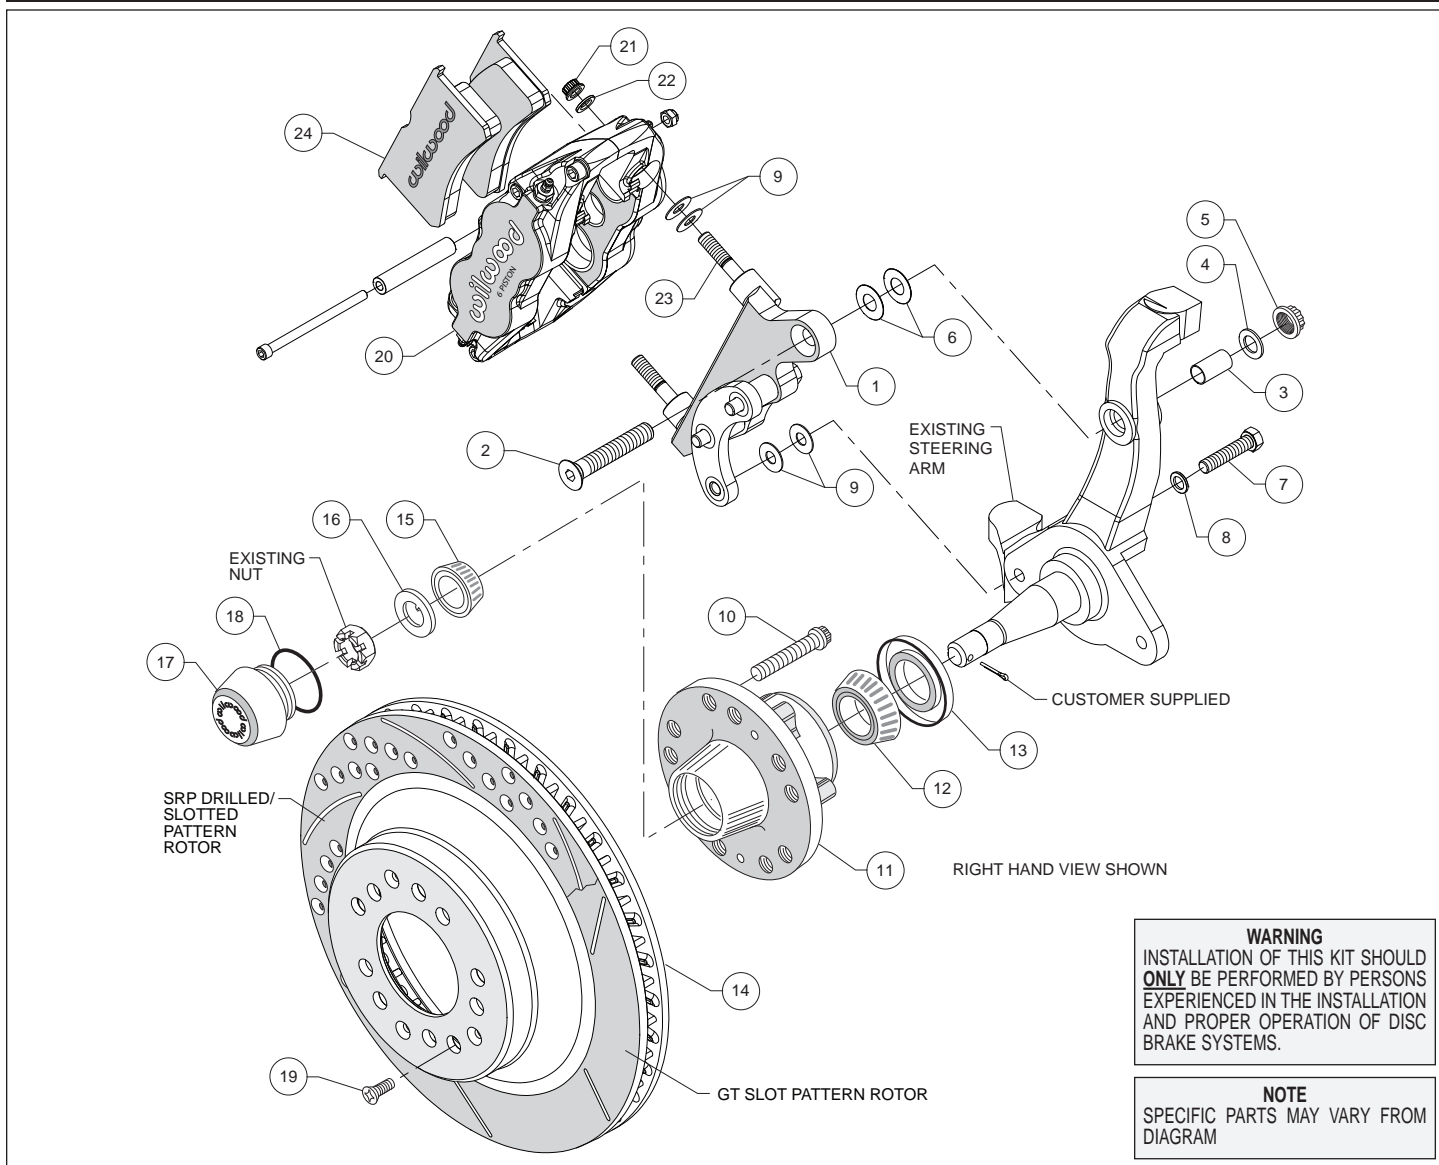
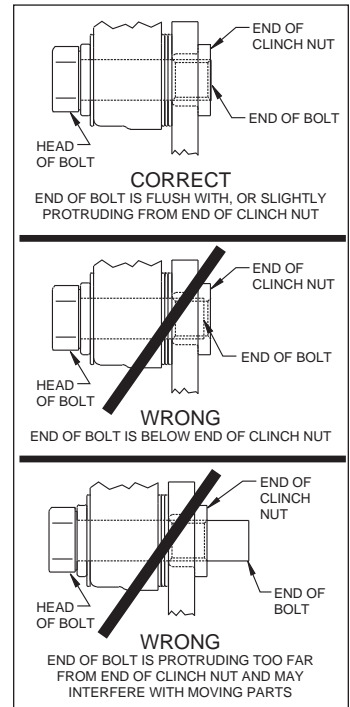

Figure 1. Typical Installation Configuration
Figure 3. Clinch Nut Engagement Diagram
Assembly Instructions (numbers in parenthesis refer to the parts list and Figure 1 on the preceding pages): **CAUTION:** All mounting bolts must fully engage clinch nuts. Be sure to check that all bolts are either flush or protruding through flanged side of clinch nut after shimming, Figure 3.
- The caliper bracket (1) should initially be installed with clean, dry threads on the mounting bolts. The bracket has been assembled at the factory for alignment purposes. Loosen the two bolts that secure the brackets together so that the bolts are hand tight only. This will enable the bracket assembly to be adjusted to accommodate various spindle tolerances during assembly. Insert sleeve (3) into top mounting hole on the spindle, Figure 1. Orient the bracket as shown in Figure 1 and install using bolt (2), washer (4), and locknut (5), in the upper hole, as shown in Figure 1 and Photo 1. Initially use two .032" thick shims (6) on the upper bolt between the bracket and spindle, Figure 1. Install bolt (7) and washer (8) in the lower hole, Figure 1. Initially use two .035" thick shims (9) between the bracket and spindle face. Temporarily tighten the mounting bolts, followed by the two bracket-to-bracket bolts. **NOTE:** The bracket must fit squarely against the mounting points on the spindle. Inspect for interference from casting irregularities, machining ridges, burrs, etc. Later, after the bracket and caliper alignment has been checked, the bolts will be secured using red *Loctite*® 271.
- Check that the bracket (1) is aligned parallel to the rotor (14), Photo 2, by assembling and installing the hub and rotor per the steps below. If not, parallel adjust by adding or subtracting shims (9) on the lower bolt between the spindle and bracket, Figure 1.
- Install wheel studs (10) into the hub (11), Photo 3. Torque to 77 ft-lb. **NOTE:** There are two five lug patterns in the hub (5 x 4.50 and 5 x 4.75). Ensure the correct hub stud pattern is being used to fit the wheel application.
- Pack the large inner bearing cone (12) with high temperature disc brake bearing grease (available from your local auto parts store) and install into the backside of the hub (11), Photo 4.
- Install the grease seal (13) by pressing into the backside of the hub (11), flush with the end of the hub, Photo 4.
- Pack the small outer bearing cone (15) with high temperature disc brake bearing grease and install into hub (11). Slide the hub assembly onto the spindle. Secure using spindle washer (16)
- Screw dust cap (17) into hub (11), Photo 6. Friction created by the o-ring (18) on the dust cap keeps it from unscrewing. **NOTE:** *The O.D. of the existing OEM spindle washer may be larger than the I.D. of the dust cap not allowing it to seat against the hub face. Therefore, use the spindle washer (16) supplied with the kit instead of the OEM washer.*
- Slide the rotor (14) onto the hub (11) taking care to align the small countersunk holes in the rotor with the small threaded holes in the hub. **NOTE:** *The rotor must fit flush against the hub face or excessive rotor run out may result.* Install three flat head screws (19) through the small holes in the rotor, Photo 6, and torque to 85 in-lb.
- NOTE:** *This kit contains distinct right and left hand calipers that must be mounted in a specific direction, as described below.* Lubricate the caliper mounting studs (23) with lightweight oil. Initially place two .035" thick shims (9) on each stud between the caliper and the bracket, as shown in Figure 1 and Photo 7. Mount the caliper (20) onto the bracket (1) using lock nuts (21) and washers (22), Figure 1. Ensure that the caliper is mounted so the largest pistons are at the rotor exit end of the caliper, in relation to the direction of rotor rotation. Temporarily tighten the lock nuts and view the rotor through the top opening of the caliper. The rotor should be centered in the caliper, Photo 8. If not, adjust by adding or subtracting shims (6 upper bolt, and 9 lower bolt) between the spindle and the caliper bracket. Always add or subtract the same amount of shims on each of the two mounting bolts to keep the bracket parallel to the rotor. **NOTE:** *The end of the lower bolt must be flush with, or slightly protruding from, the head of the clinch nut, as shown in Figure 4.* If necessary place spare shims between washer (8) and spindle to achieve the proper clinch nut engagement.
- Remove the caliper center bridge pad retainer bolt, nut, and tube from the caliper. Insert the brake pads (24) into the caliper, with the friction material facing the rotor, as shown in Photo 9. Check that the top of the brake pad is flush with the outside diameter of the rotor, Photo 10. If not, adjust by adding or subtracting shims (9) between the caliper and the bracket. After the caliper pad height is set, torque the caliper lock nuts (21) to 30 ft-lb. Secure the brake pads in place with the center bridge pad retainer tube, bolt, and locknut. The locknut should be snug without play in the bolt or tube. Be cautious not to over tighten.